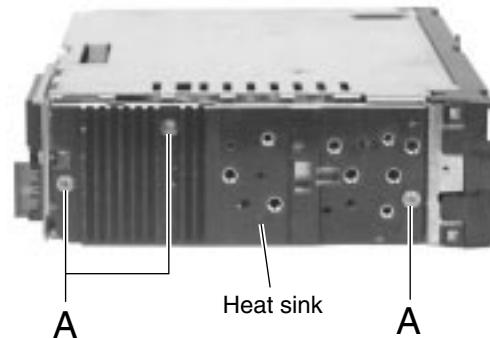

Fig.4
■Removing the heat sink (See Fig.4)